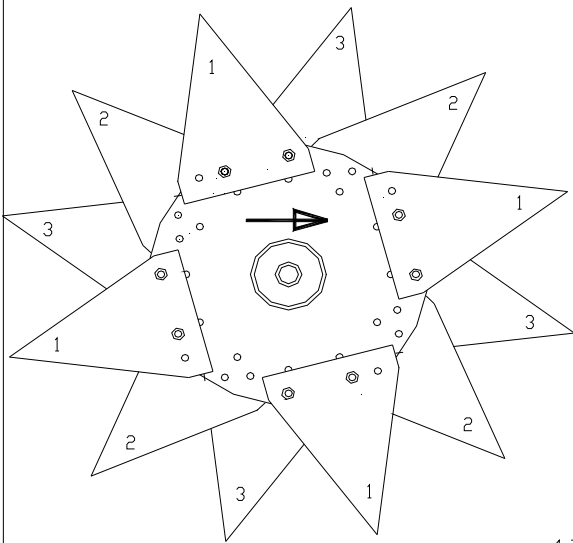

Fig. 4.
7. The truckster knives ( standard delivered with machine), can be mounted to the rotor, as shown in Fig.4. In Fig.4. four knives are evenly fitted at a disk. On the next disk, the knives should be mounted with an offset. In Fig.4 this is indicated with a number on the knives. One means the first disk etc. Mount the knives exactly the same way as drawn in Fig.4. For more information on knives and the assembly, see Chapter 12.